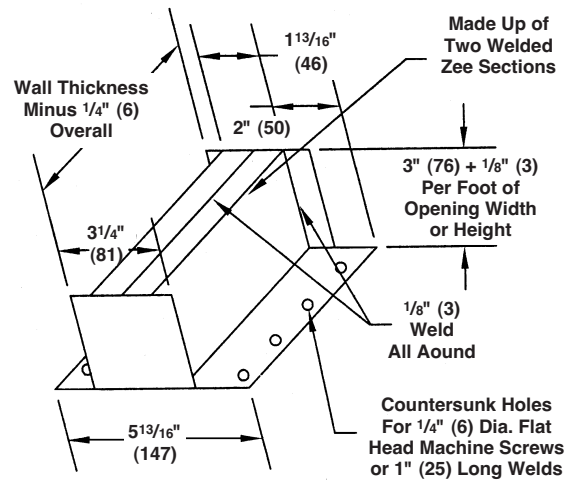
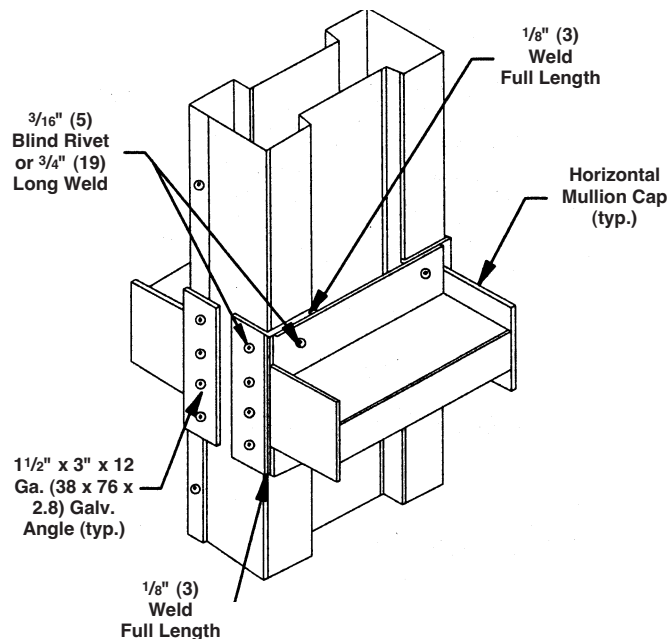

FIGURE 2
FIGURE 3
Fabricate two caps per each mullion of 12 gage (2.8) galvanized steel as shown in Figure 2 for vertical mullions and horizontal mullions. Caps must permit mullion to overlap each cap by 3" (76) minimum. Cap height is calculated by adding 3" (76) to permitted mullion expansion clearance which is $\frac{1}{8}$ " (3) per foot of wall opening height.
Drill holes in caps and concrete for anchoring steel mullion caps with $\frac{1}{4}$ " (6) - 20 x $\frac{5}{16}$ " (8) steel screws and $\frac{3}{8}$ " (10) diameter x 1" (25) concrete expansion anchors as shown in Figure 2. Set horizontal mullion caps at vertical mullions as shown in Figure 3 as required. If steel lintels are present, four 1" (25) welds (two per mullion cap leg) may be used to anchor each mullion cap.